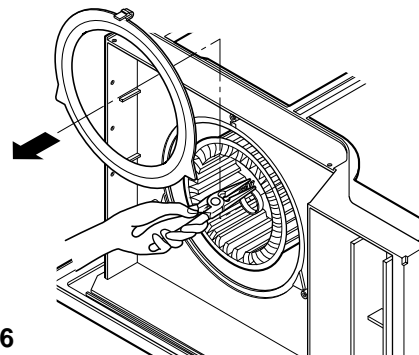

Figure 6
7. Remove the orifice from the air guide carefully. (See Fig. 6, Except Electric Heater Model)
8. Remove the clamp which secures the blower with plier. (See Fig. 6)